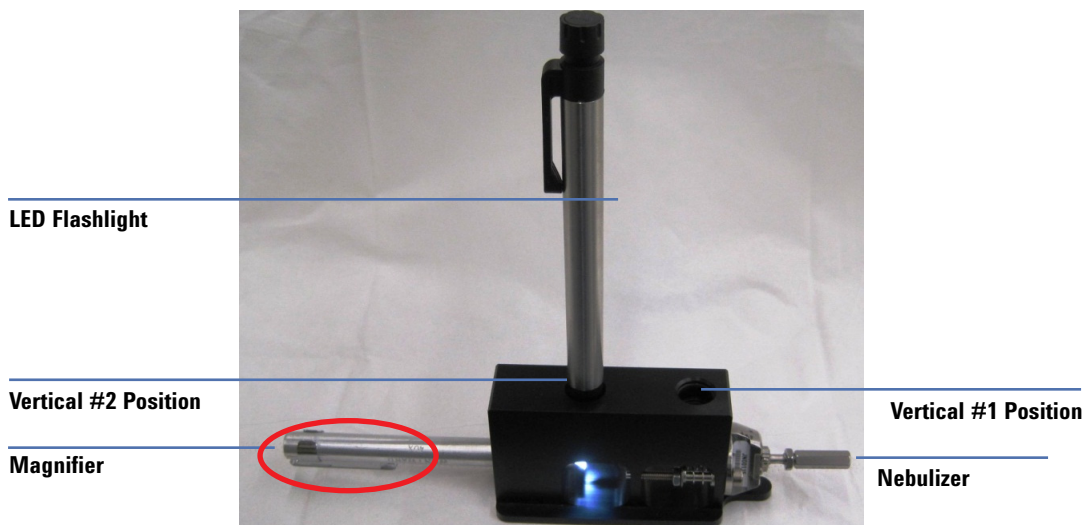

Figure 26 Setup to inspect the end of the nebulizer. Pocket clip of the 40× Magnifier is circled.
- 2 To inspect the *end* of the nebulizer for poor needle centering, plugged needles, or nozzle damage (Figure 26):